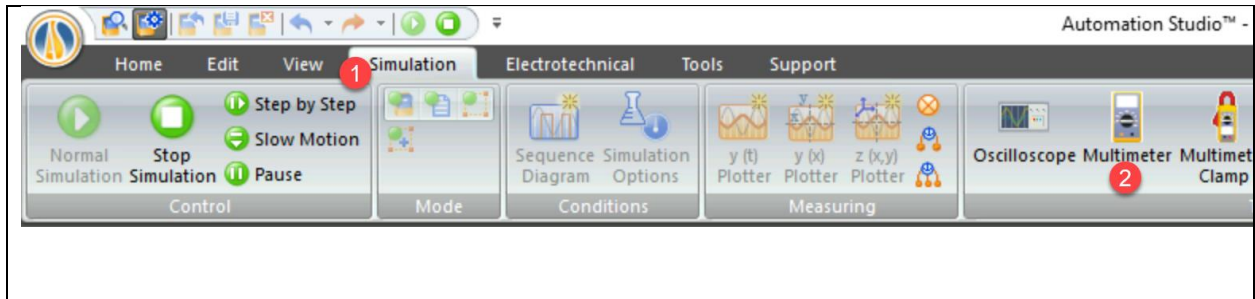

Figure 5. Accessing the Multimeter in Automation Studio.
4. Access the Multimeter in Automation Studio as shown in Figure 5: